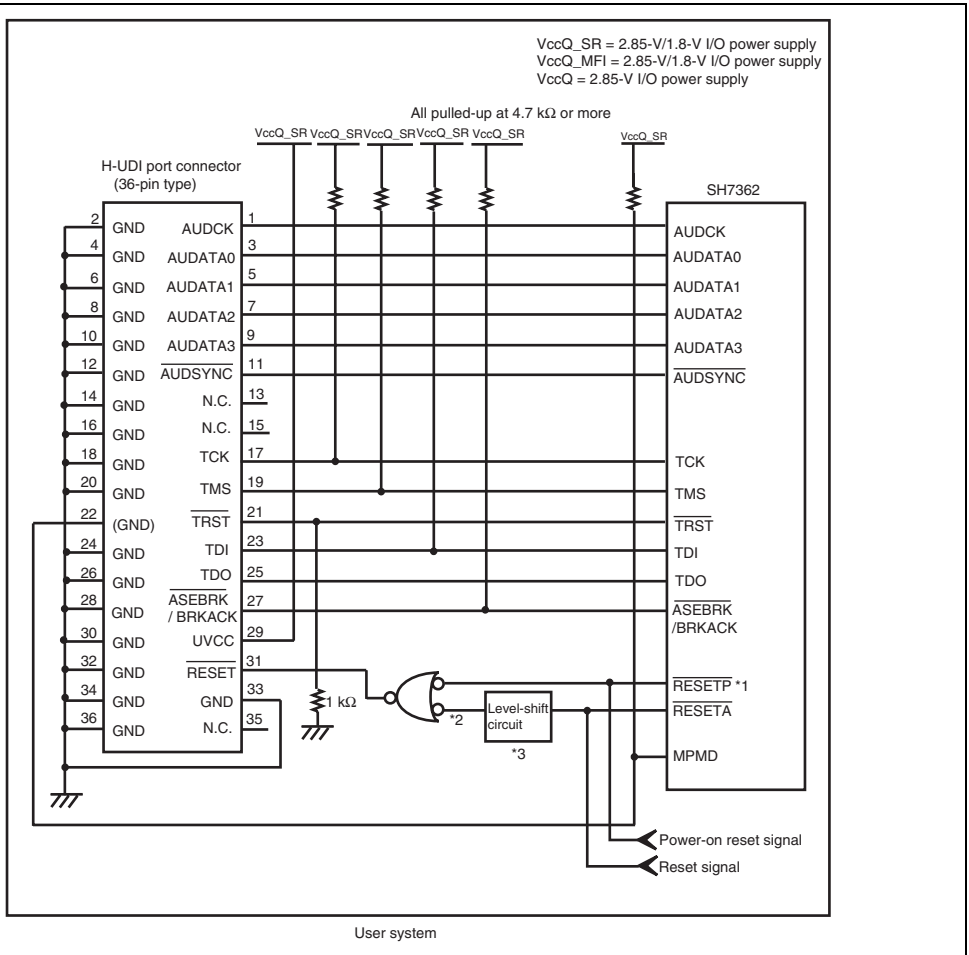

Figure 1.5 Recommended Circuit for Connection between the H-UDI Port Connector and MPU when the Emulator is in Use (36-Pin Type)
5. Connect /RESETP and /RESETA to the user system if required, as shown in figure 1.5.
Figure 1.5 shows a recommended circuit for connection between the H-UDI and AUD port connectors (36 pins) and the MPU when the emulator is in use.
- (1) When the emulator is used: MPMD = 0
- (2) When the emulator is not used: MPMD = 1Figure 1.5 shows an example of circuits that allow the MPMD pin to be GND (0) whenever the emulator is connected by using the user system interface cable.
7. The resistance values shown in figure 1.5 are for reference.
When the circuit is connected as shown in figure 1.5, the switches of the emulator are set as SW2 = 1 and SW3 = 1. For details, refer to section 3.8, Setting the DIP Switches, in the SuperH™ Family E10A-USB Emulator User’s Manual.